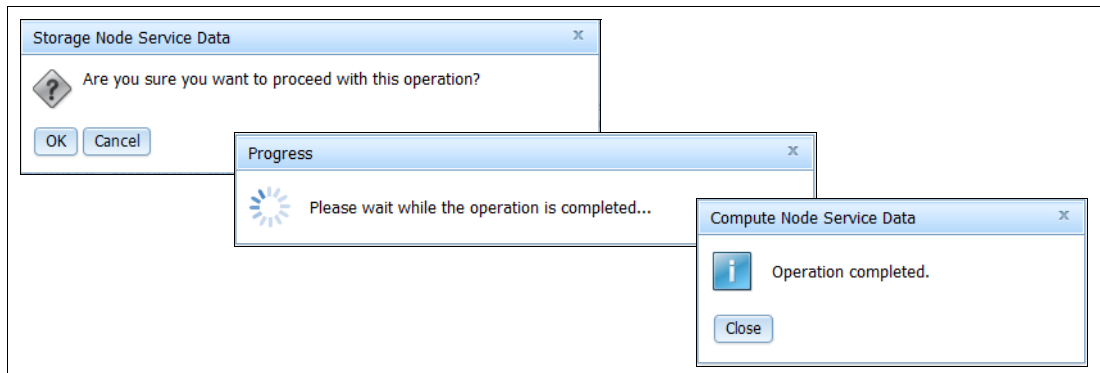

Figure 3-37 Status dialog boxes
- ▶ The system will prompt you for verification, indicate that operation is in progress, and then its completion, as shown in Figure 3-37.